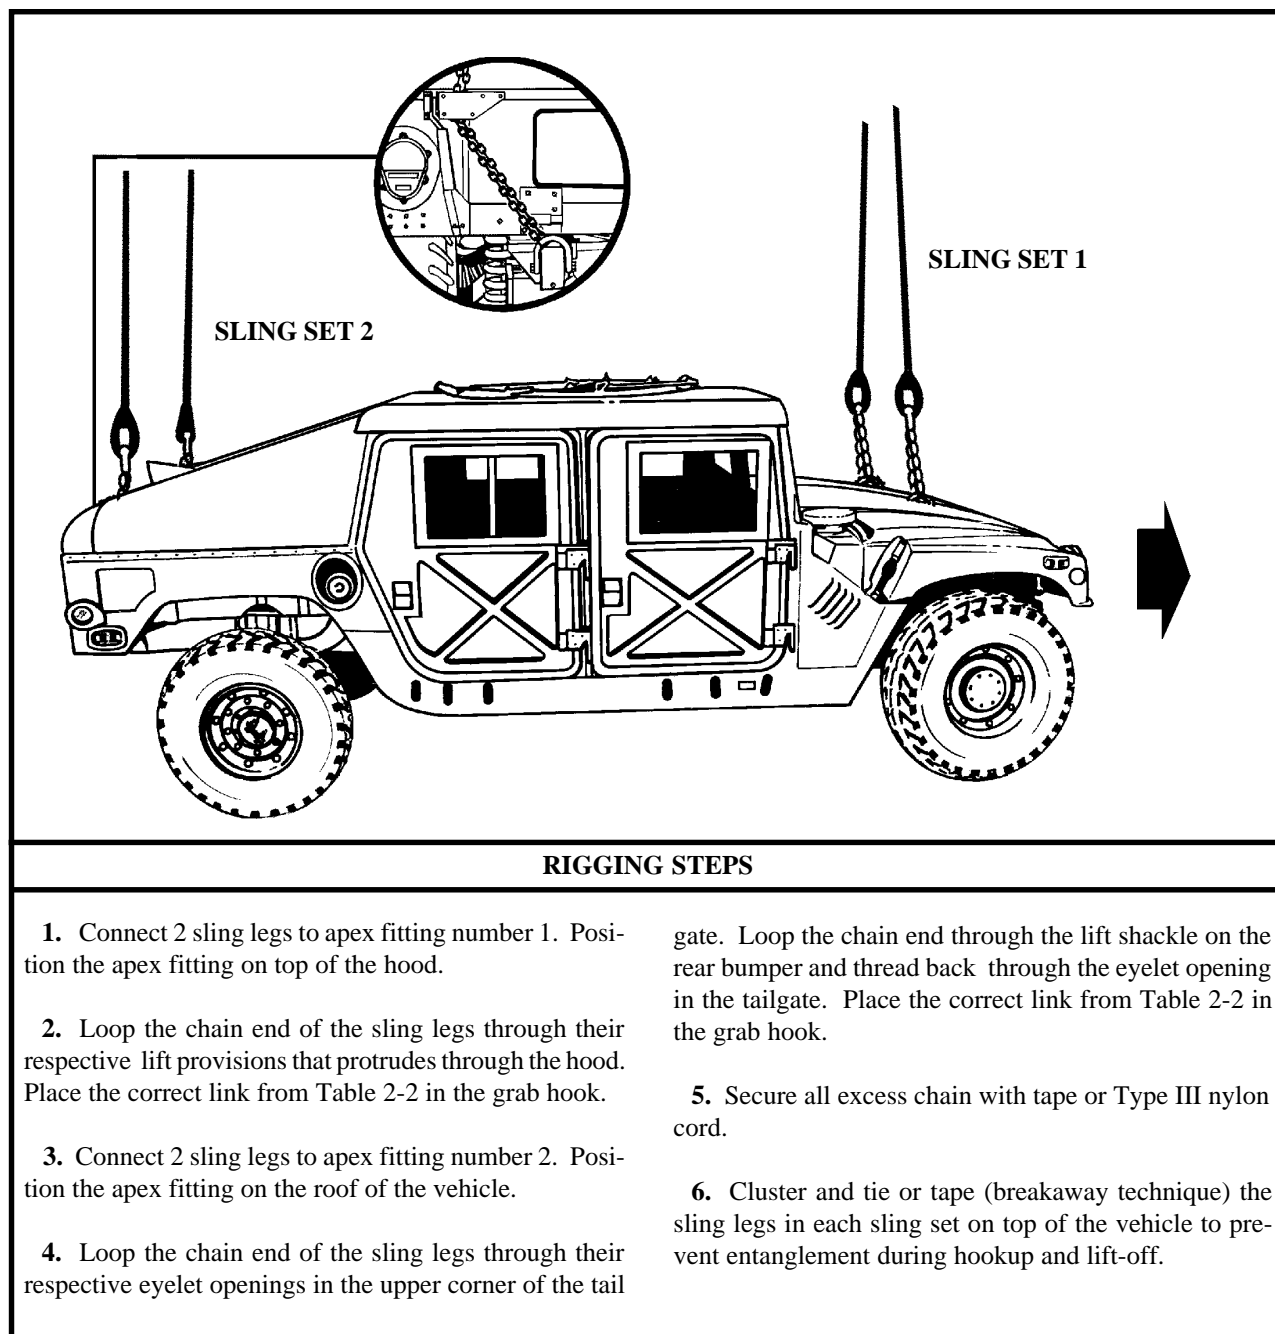

Figure 2-2. TOW Missile Carrier (HMMWV)
(2) **Rigging.** Rig the load according to the steps in Figure 2-2.
(4) **Derigging.** Derigging is the reverse of the preparation and rigging procedures in steps d (1) and d (2).